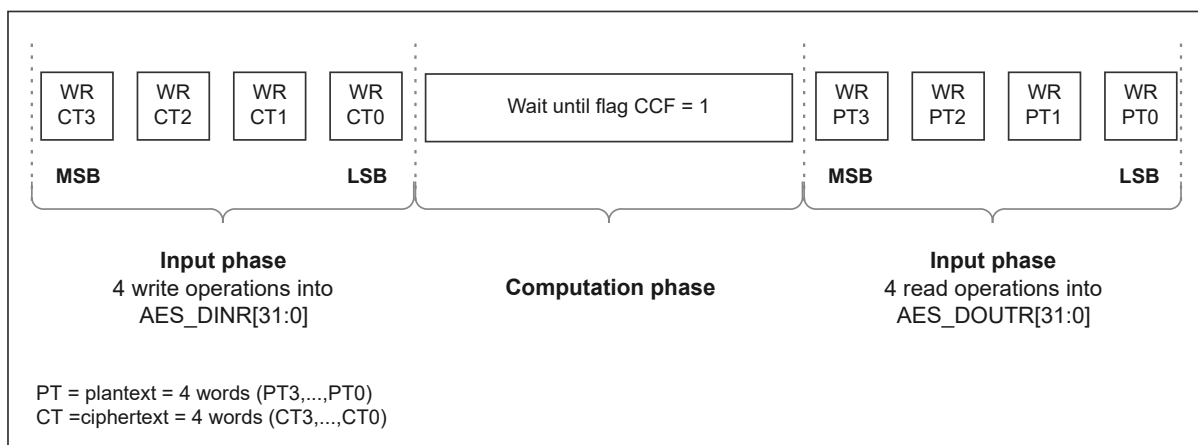

Figure 15-17 ECB/CBC Decryption (Mode 2)
5. Write the AES_DINR register four times to input the cipher text (MSB first), as shown in Figure 15-17.
7. Read the AES_DOUTR register four times to get the plaintext (MSB first), as shown in Figure 15-17. Then, clear the CCF flag by setting the CCFC bit of the AES_CR register.